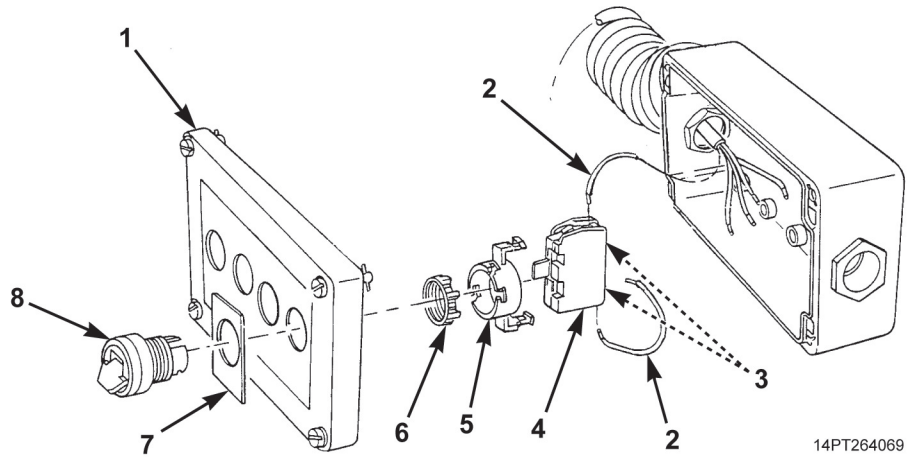

Figure 6. MCS Control Box Components Assembly.
3. Install data plate (Figure 6, Item 7), switch housing (Figure 6, Item 8), and ring (Figure 6, Item 6) on cover (Figure 6, Item 1).
4. Install retainer (Figure 6, Item 5) and switch (Figure 6, Item 4) on switch housing (Figure 6, Item 8).
5. Connect two wires (Figure 6, Item 2) to switch (Figure 6, Item 4) and tighten two screws (Figure 6, Item 3).